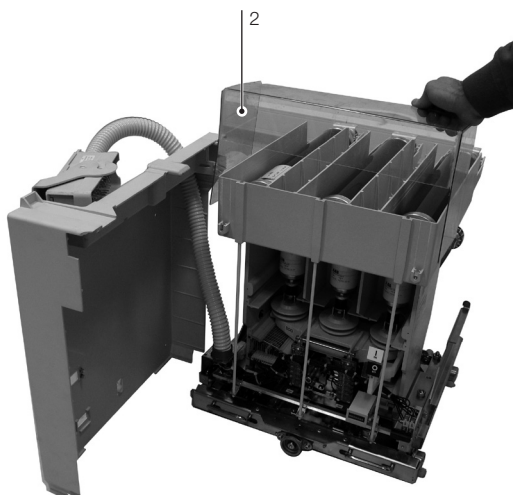

Fig. 18c
With the contactor racked out of the switchgear, unscrew the four fixing screws of the shield and relative DIN washers (fig. 18a) and position it as in fig. 18b. For 12 kV contactors, remove protection (2) and (fig. 18c) proceed to replace the fuses according to the instructions given in par. 7.8.
Reposition the protection (1) (fig. 18b), repeating the operations indicated in par. 7.7.2. in reverse order. Remount the shield. Check that the impulse counter (14) (fig. 18c) inserts itself into the special seat (69) (fig. 18d) and fix the shield with the screws (70) and DIN washers (71) (fig. 18a).